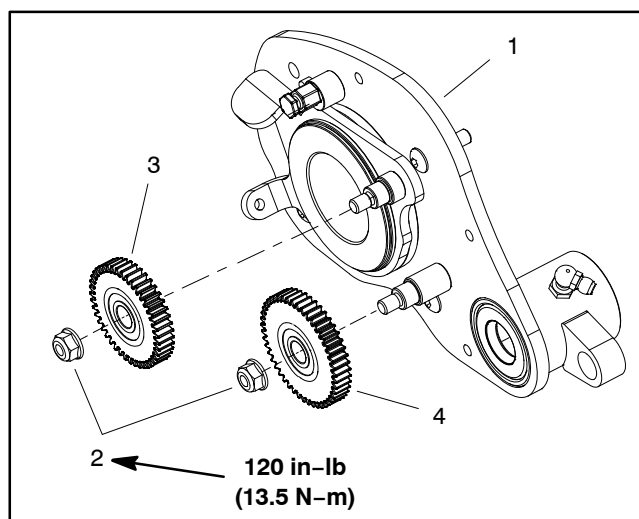
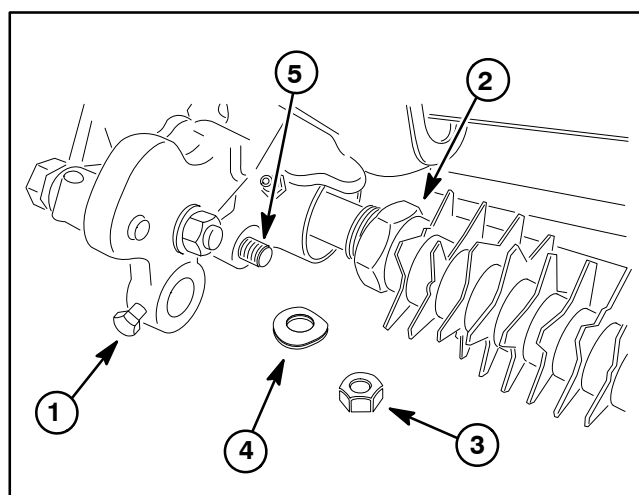

Figure 12
Figure 13
6. Remove the two (2) idler gears (43T and 47T) from the RH drive plate assembly (Fig. 12). The bearings are pressed into the gears.
7. Loosen cap screws (item 7) that secure front roller shaft to groomer arms.
8. Remove lock nut and spring washer that secure RH groomer arm lift rod to RH drive plate assembly (Fig. 13).
9. Remove HOC nut (item 2), HOC washer (item 9) and plow bolt (item 31) that secure RH groomer arm assembly to RH drive plate assembly. Do not change height-of-cut screw adjustment. Remove RH groomer arm assembly from cutting unit.
**NOTE:** To prevent grooming reel shaft from turning when removing driven gear (item 14), use wrench on shaft flats to hold shaft.
11. Remove the lock nut (item 15) that secures driven gear (item 14) to grooming reel shaft. Remove driven gear from shaft.
**NOTE:** To prevent cutting reel from turning when removing groomer drive gear (item 17), block reel with piece of wood.
12. Loosen and remove groomer drive gear (item 17) from the cutting reel shaft.
13. Remove four (4) button head screws (item 30) that secure the RH drive plate assembly (item 12) to the support plate on the cutting unit frame. Remove the RH drive plate assembly from grooming shaft and cutting unit.
5. Carefully slide RH drive plate onto grooming reel shaft taking care to not damage seals in drive plate. Position drive plate to the support plate on the cutting unit frame and secure with four (4) button head screws (item 30). Make sure that drive plate rotates freely after installation.
6. Install driven gear (item 14) onto grooming reel shaft:
A. Apply light coating of grease to hub on driven gear (item 14).
C. Secure gear to shaft with lock nut (item 15). Torque lock nut from **17 to 21 ft-lb (24 to 28 N-m)**.
**NOTE:** To prevent cutting reel from turning when installing groomer drive gear (item 17), block reel with piece of wood.
7. Secure groomer drive gear (item 17) to cutting reel shaft. Torque gear to **125 ft-lb (170 N-m)**.
8. Install the two (2) idler gears (43T and 47T) to RH drive plate assembly (Fig. 12). Secure gears with flange nuts and torque flange nuts **120 in-lb (13.5 N-m)**.